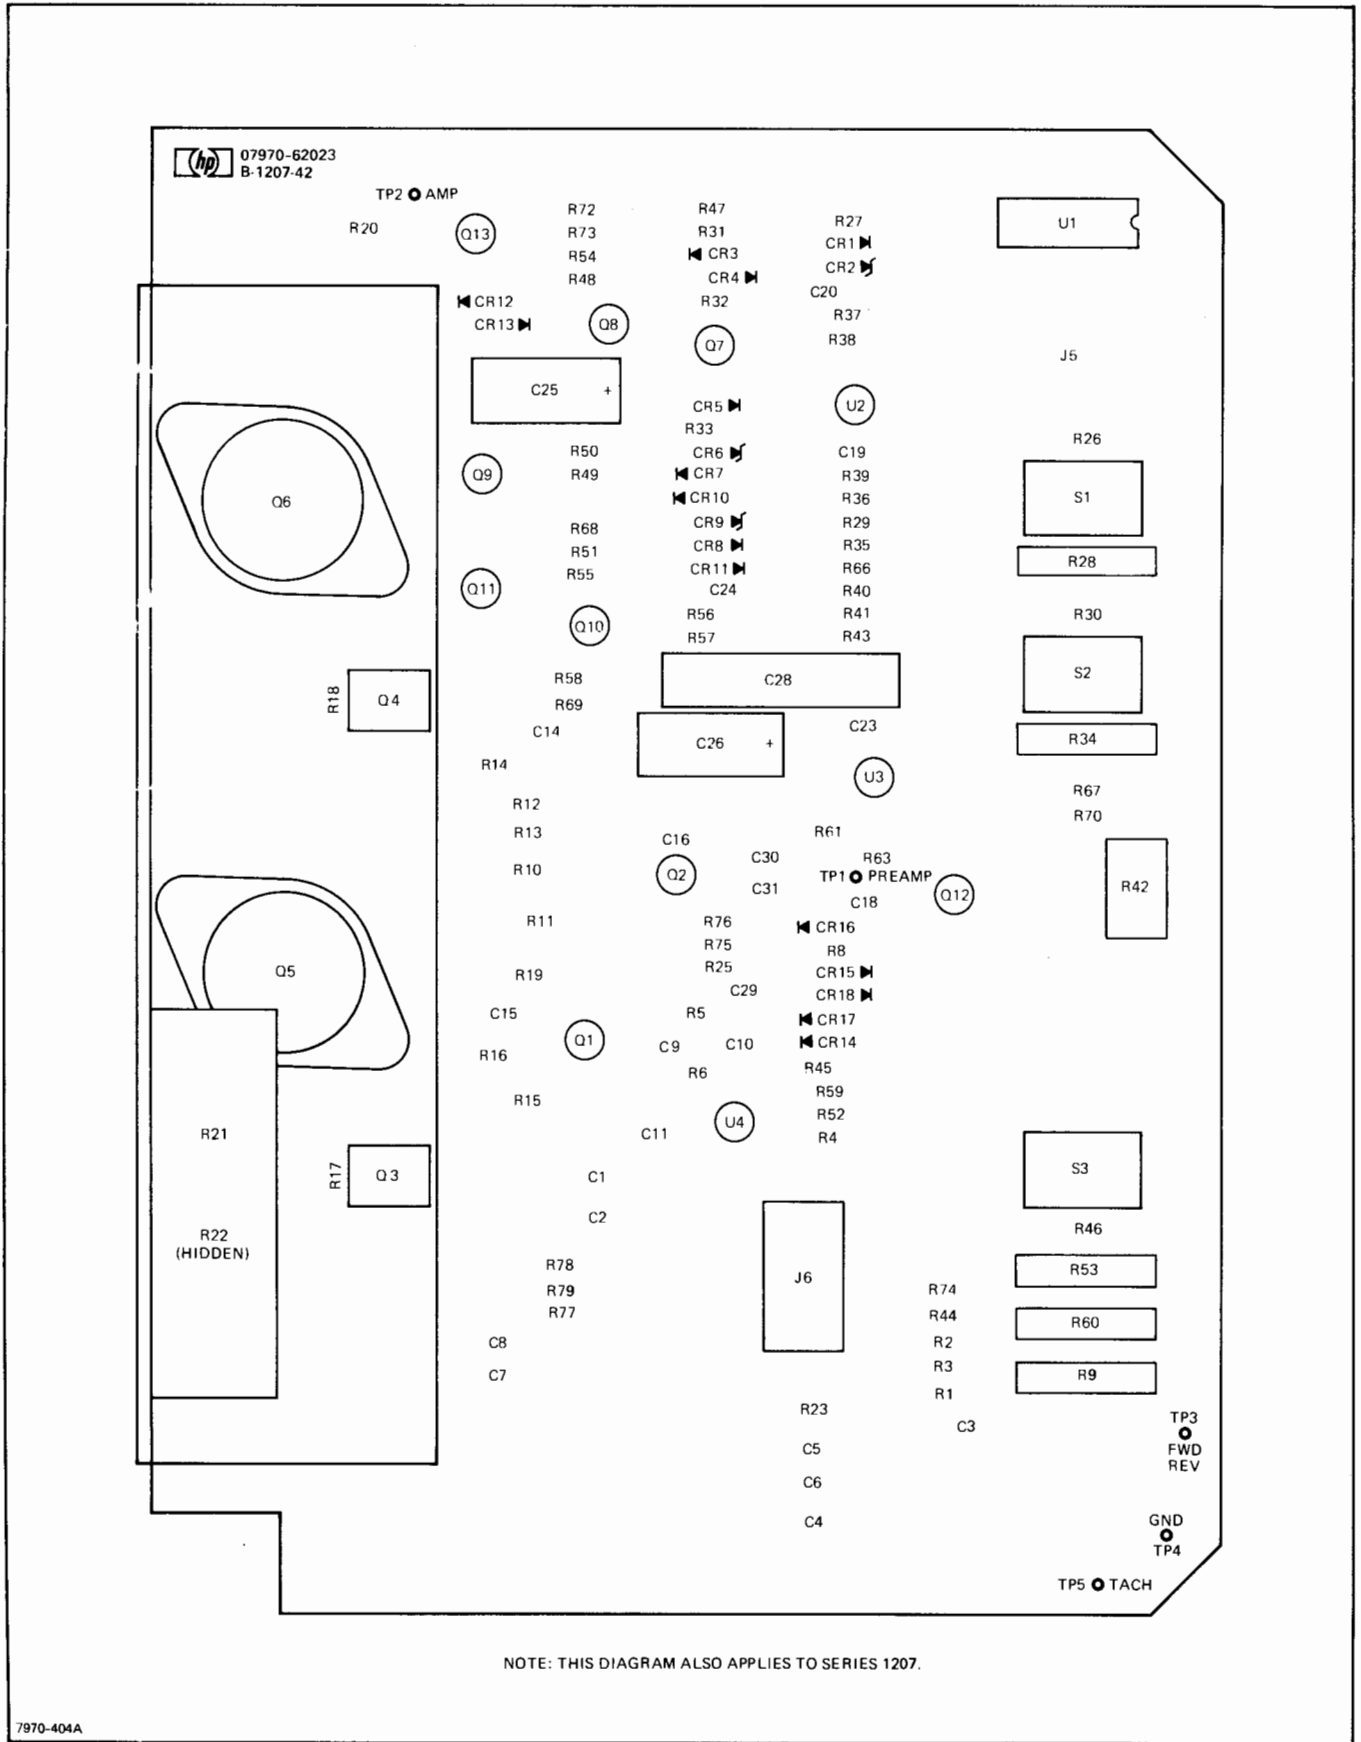

Figure 7-9. Capstan Servo PC Assembly A6, Parts Location Diagram
- 59 Part 2, page 6-37. Delete items 47 and 48.
- 60 Part 2, page 7-11, figures 7-9 and 7-10. Change series no. of Capstan Servo PC assembly to 1206.
- 61 Part 2, page 6-34. Delete items 70 and 71.